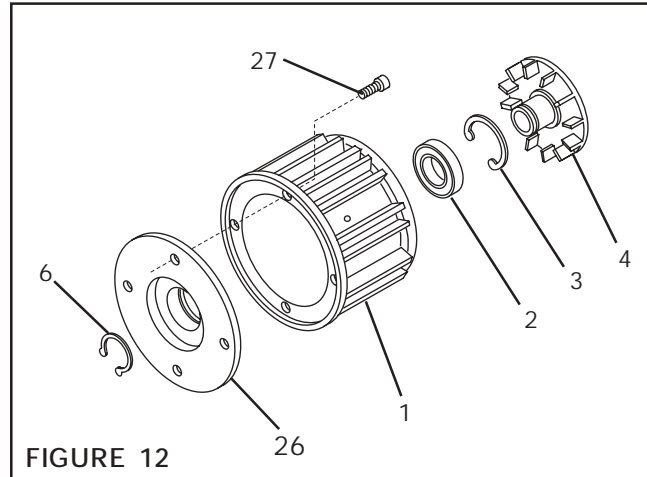

FIGURE 12
2. Remove the four Socket Head Cap Screws (Item 27) (See Figure 12).
3. Remove the Female Pilot (Item 26) from the Housing (Item 1) (See Figure 12).
4. Remove the Retaining Ring (Item 6) and press the Drive Disc (Item 4) out of Female Pilot (Item 26) (See Figure 12).
5. Remove Retaining Ring (Item 3) (See Figure 12).
6. Fully supporting the Female Pilot (Item 26), press the old Ball Bearing (Item 2) out of the Female Pilot (See Figure 12).
7. Clean the bearing bore of the Female Pilot (Item 26) with fresh safety solvent, making sure all old Loctite® residue is removed (See Figure 12).
8. Apply an adequate amount of Loctite® 680 to evenly coat the outer race of the new Ball Bearing (Item 2) (See Figure 12).
9. Supporting the Female Pilot (Item 26) and pressing on the outer race of the new Ball Bearing (Item 2), press the new Ball Bearing into the Female Pilot (See Figure 12).
10. Reinstall Retaining Ring (Item 3) (See Figure 12).
11. Support the inner race of the new Ball Bearing (Item 2) and press the Drive Disc (Item 4) into the new Ball Bearing and Female Pilot (Item 26) (See Figure 12).
12. Reinstall Retaining Ring (Item 6) (See Figure 12).
13. Using the four Socket Head Cap Screws (Item 27), secure the Female Pilot (Item 26) to the Housing (Item 1) (See Figure 12).